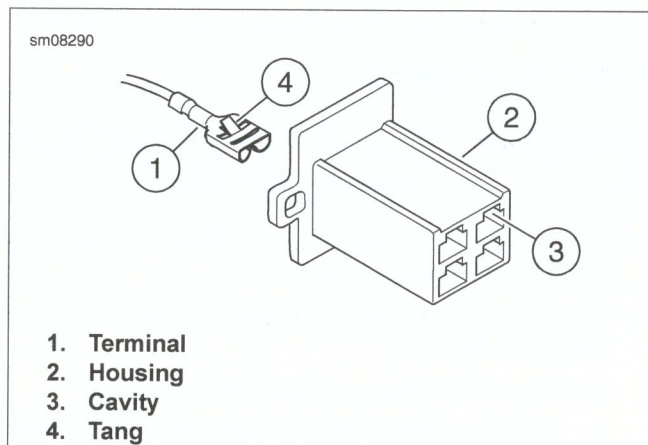

Figure A-25. Sumitomo MTW and MTL Unsealed Connector
2. See Figure A-25. Insert the extractor into the cavity (3) next to the terminal (1). Bend the metal tang (4) of the terminal flush with the terminal body.
3. Gently pull the wire to remove the terminal from the connector housing (2).
1. See Figure A-25. Bend metal tang (4) of terminal (1) up.